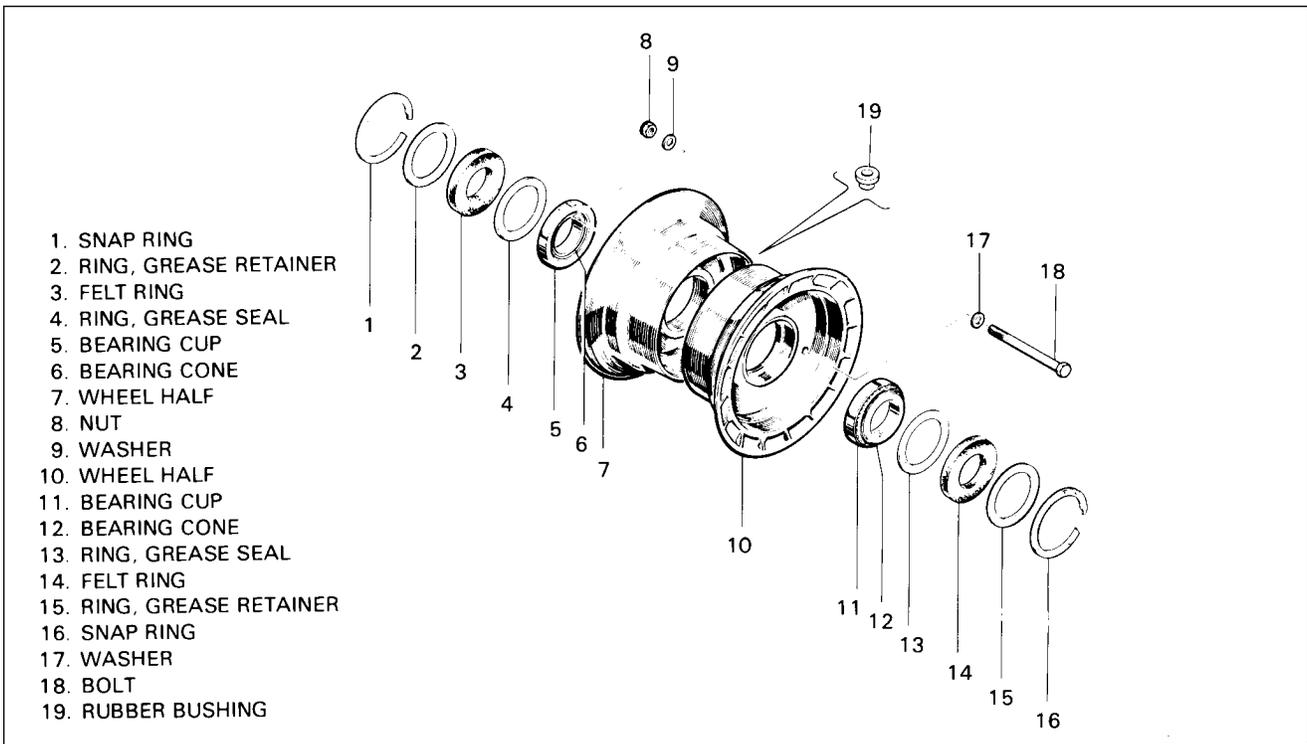

Figure 32-12. Nose Wheel Assembly
**REMOVAL AND DISASSEMBLY OF NOSE WHEEL.** (Refer to Figure 32-12.)
**ASSEMBLY AND INSTALLATION OF NOSE WHEEL.** (Refer to Figure 32-12.)